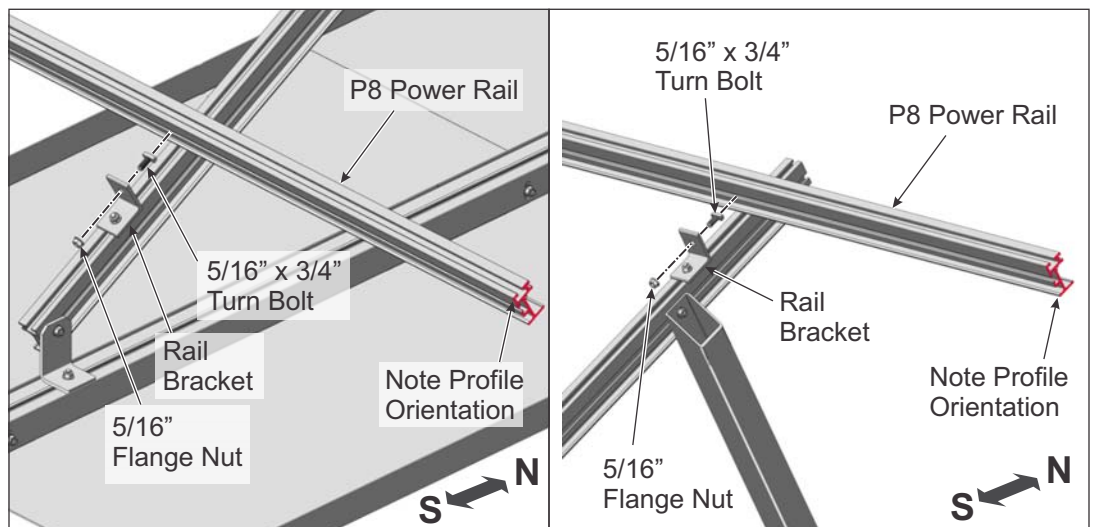

Figure 10-1: Installing Southern and Northern P8 Power Rails
P8 Power Rails attach to the Rail brackets using 5/16" x 3/4" turn bolts and flange nuts. While installing, pay close attention to the orientation between the P8 Power Rail and the Rail Brackets. (See Figure 10-1)
- A. Position the southern P8 Power Rail to the north side of the Rail Brackets with the P8 Power Rail profile in the same orientation shown in Figure 10-1.